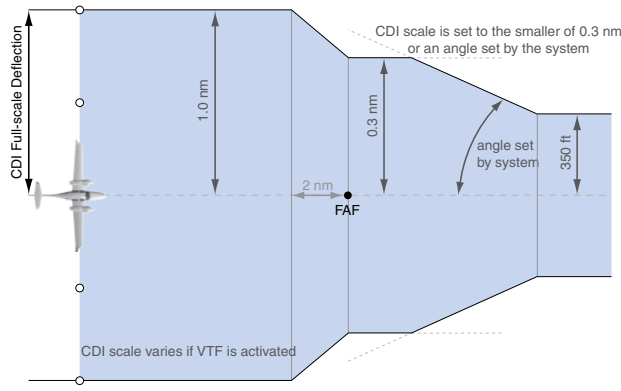

Figure 2-27 Typical LNAV and LNAV+V Approach Service Level CDI Scaling
- During **approach**, the CDI scale ramps down even further (Figures 2-27 and 2-28). This transition normally occurs within 2.0 nm of the final approach fix (FAF). The CDI switches to approach scaling automatically once the approach procedure is activated or if Vectors-To-Final (VTF) are selected.